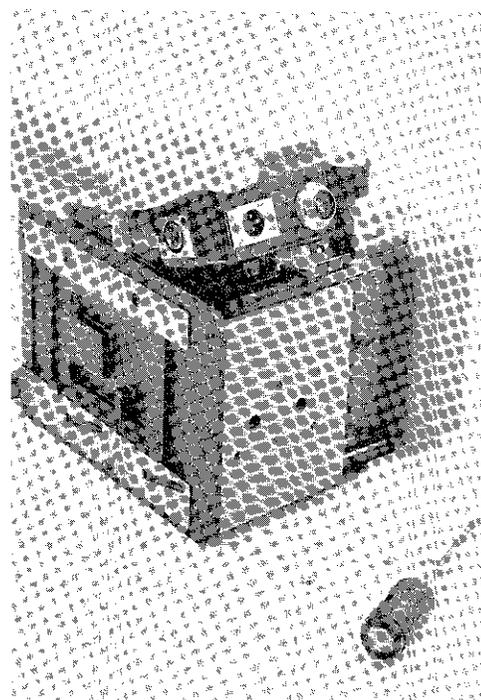

Fig.5
- e. While lifting the connector side of the box away from the camera, at the same time slide out the opposite side of the power box mounting bracket (L-shaped bracket feet) from under the hold-downs (see Fig.5).